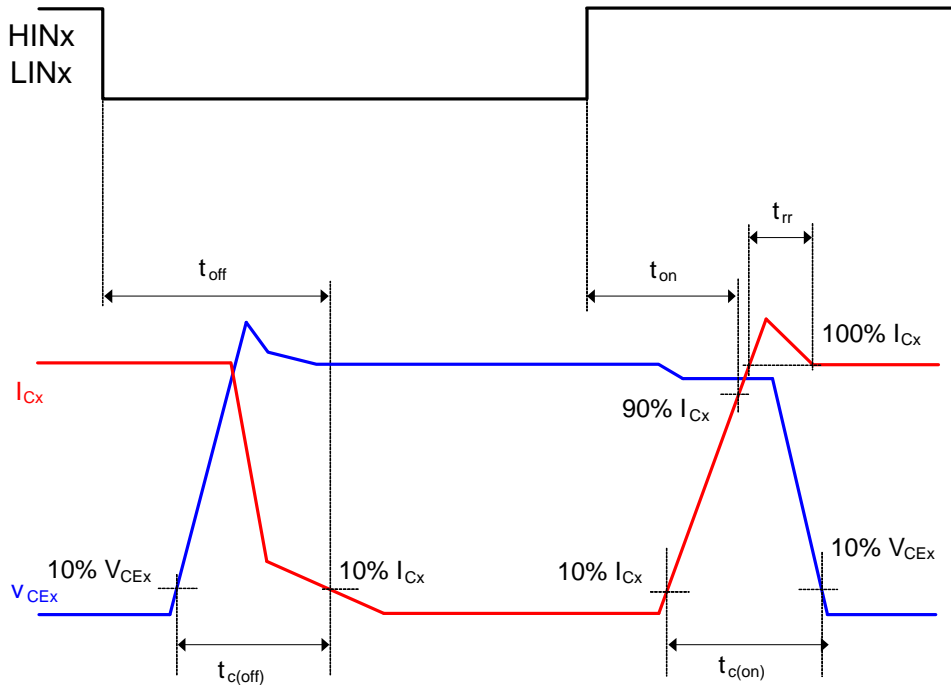

Figure 3. Switching Time
3. t_{ON} and t_{OFF} include the propagation delay of the internal drive IC. $t_{C(ON)}$ and $t_{C(OFF)}$ are the switching times of IGBT under the given gate-driving condition internally. For the detailed information, please see Figure 3.